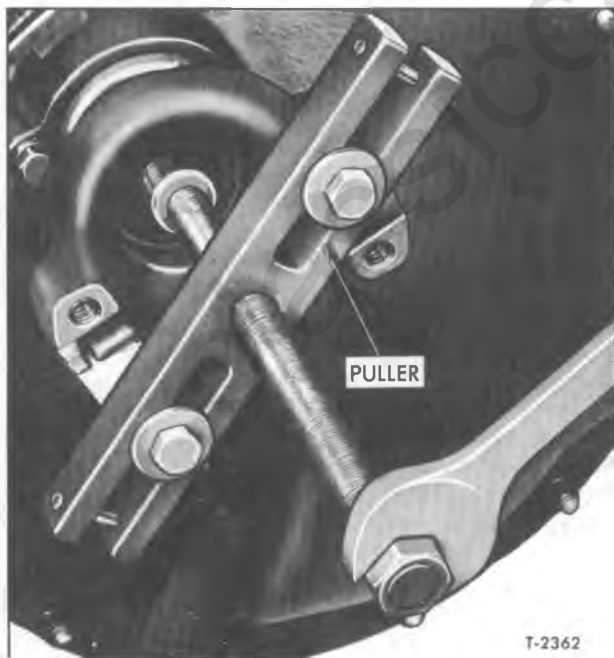

Figure 3—Propeller Shaft Yoke Puller (Typical)
3. Use suitable puller in manner typically illustrated in figure 3 to remove propeller shaft yoke.